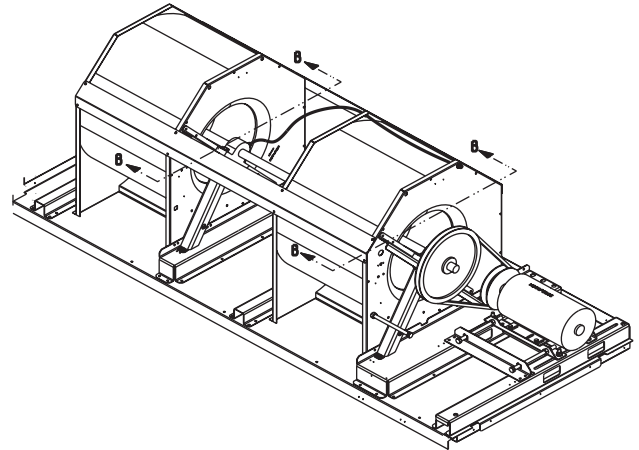

Fig. 4 — Belt Drive Motor Mounting
supported by two greaseable pillow block concentric bearings. A fixed-pitch driven (fan) pulley is attached to the fan shaft and an adjustable-pitch driver pulley is mounted on the motor. The pulleys are connected using a “V” type belt. (See Fig. 4.)
2. Loosen belt by loosening the motor adjustment bolts as described in the Belt Adjustment section above. (See Fig. 4.)